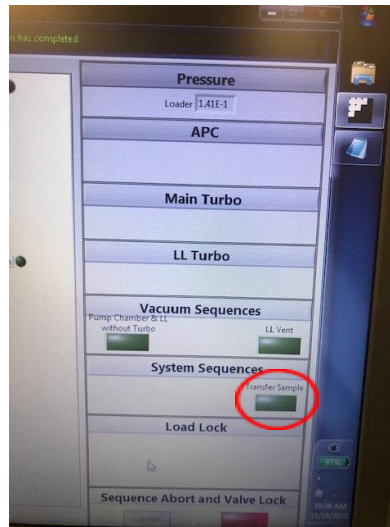

Figure 5: Transfer Sample Button
9.5.1. Under the “Vacuum System” tab, select “Transfer Sample”. **Figure 5.**